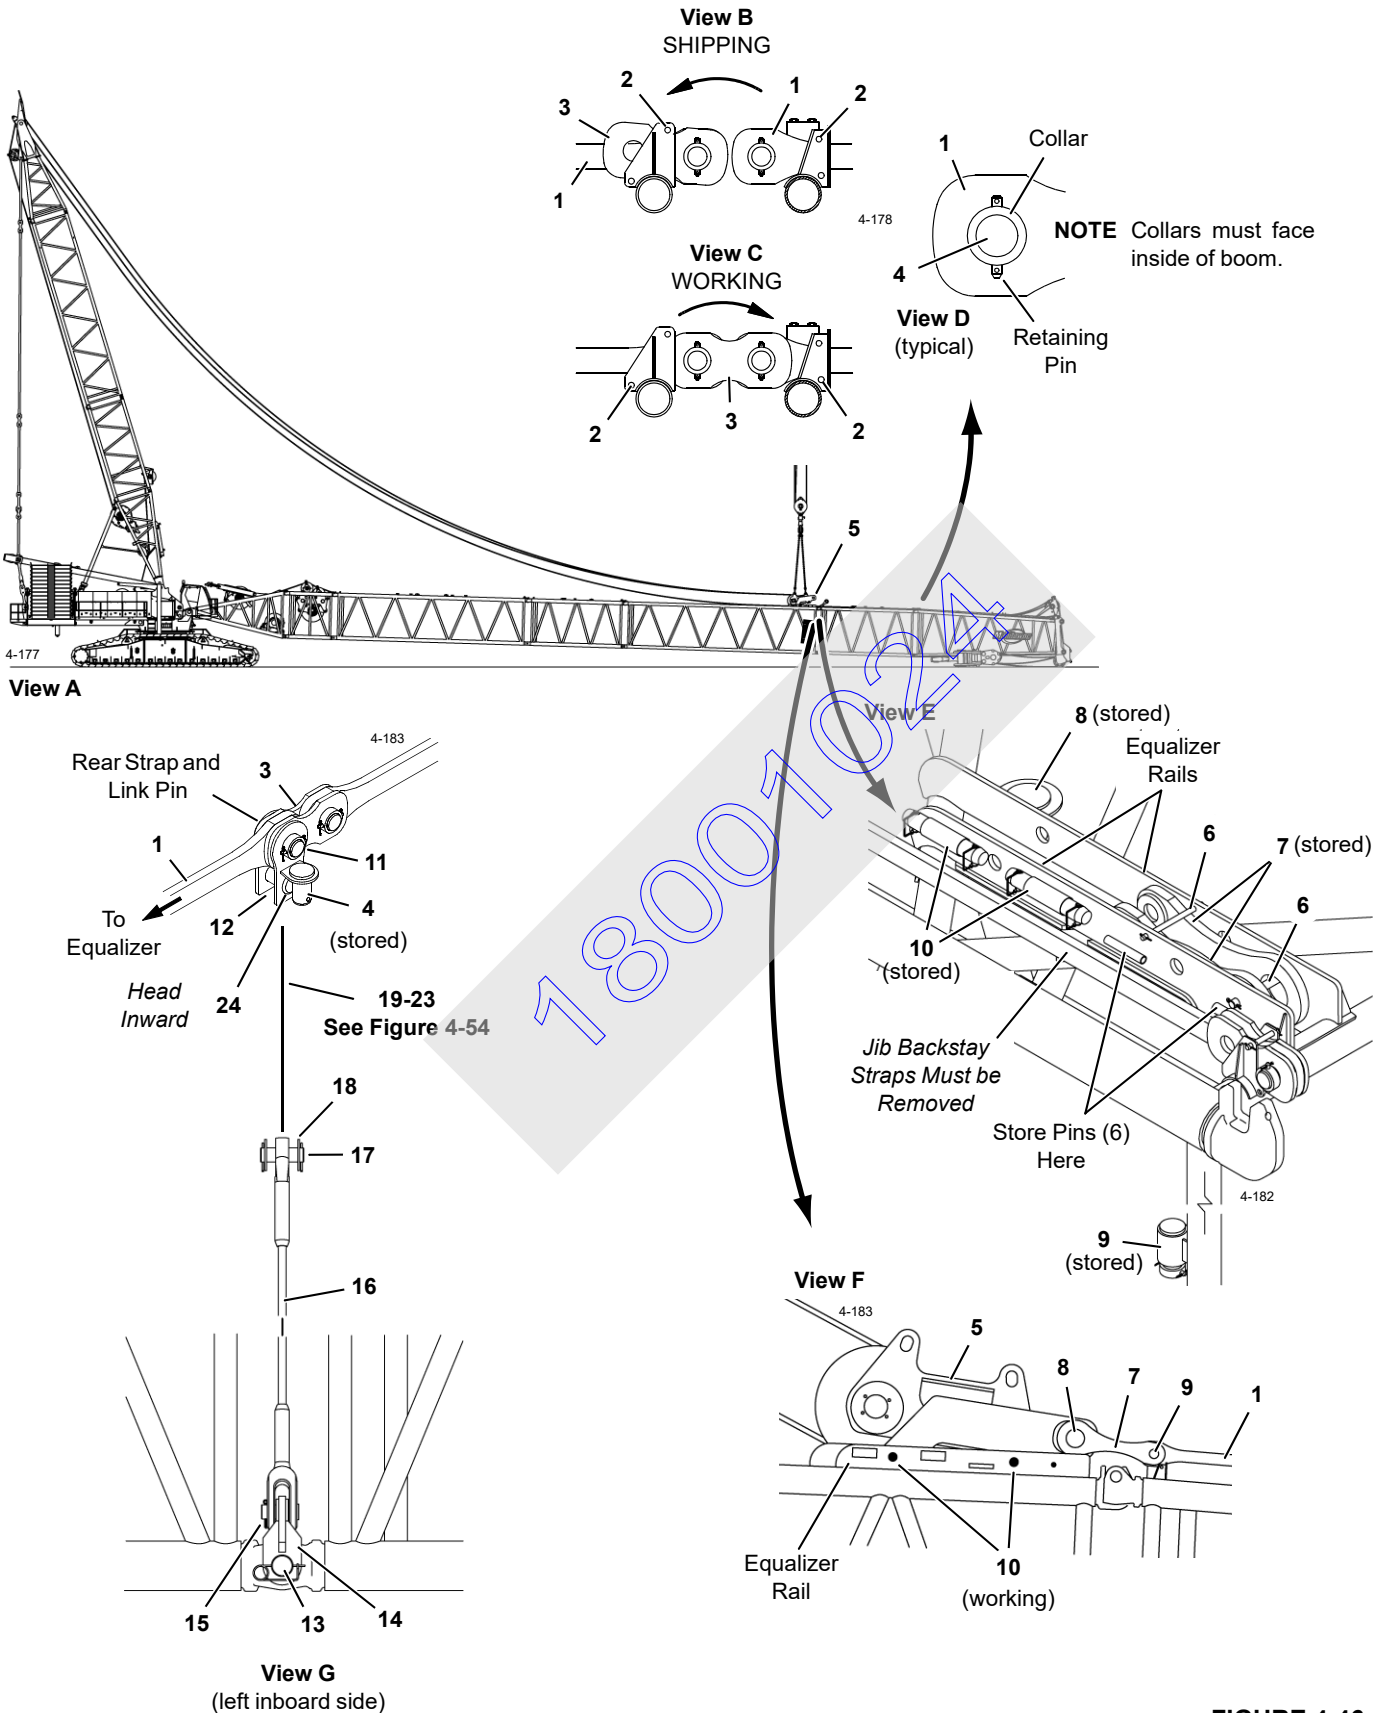

FIGURE 4-46
See Figure 4-46 for the following procedure.
See Figure 4-46 and Figure 4-54 for the procedure.
5. Using pin (13, View G), install link (14) and reconnect inserts.
6. Using pin (15), attach pendant (16) to insert link (14) (View G).
**Legend for Figure 4-46**
See Figure 4-46 for the remaining steps.